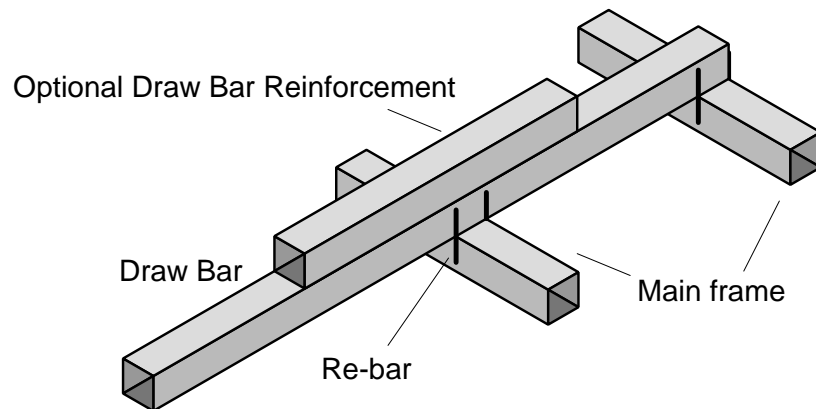

Figure 7: method of fixing draw bar to body. (View of cart upside down.)
- 5) Nearly there! Now you need to fix the draw pole. It is best to fix the draw pole to the body so it can be taken off and replaced if it gets damaged. A good way to do this is with short lengths of round bar welded on as shown in Figure 7. It is easy to cut through the re-bar hoops if you need to change the draw bar. You will need to use new re-bar of course when you put the new draw bar on. Also shown in Figure 7 is an easy way to reinforce the boom with an extra piece of steel tube welded to the main tube.